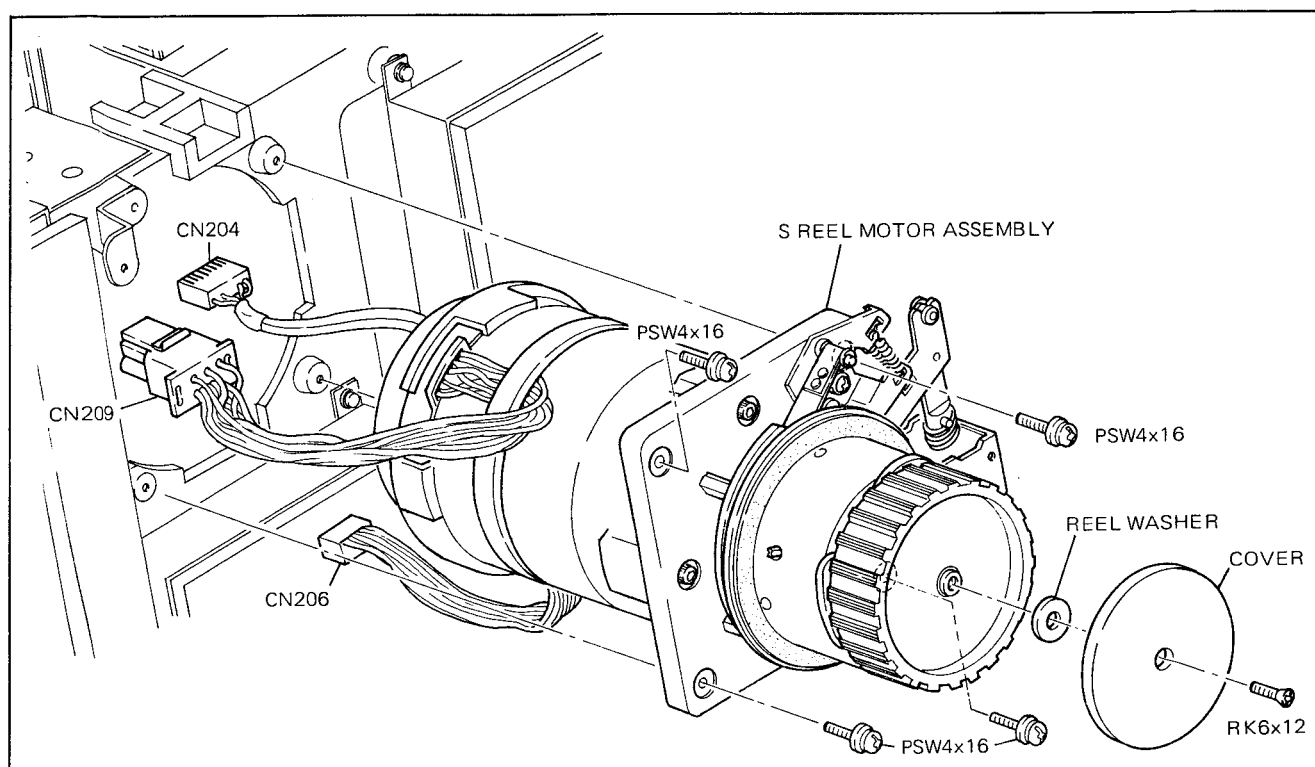

Fig. 6-4. S Reel Motor Assembly Replacement
2. Remove the cover and reel washer shown in Fig. 6-4.